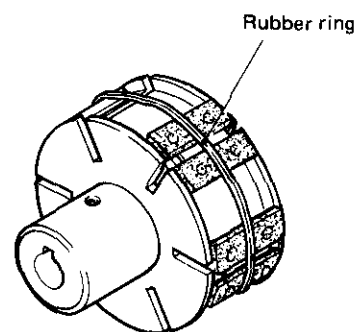

Fig. 6-51
- (1) After assembling vertical shaft parts, assemble horizontal shaft parts.
- (2) Install bearing retainer on bearing housing (3) side of horizontal shaft before installing the bearing.
- (3) Contact surface of gear boss and spiral gear shall be completely adhered.
- (4) In installing horizontal shaft, attention must be paid not to damage lip surface of oil seal.
- (5) Install bearing retainer in tightening it evenly.
- (6) If oil is adhering to friction pulley inside and friction block lining, wipe oil off completely (in which case avoid washing with highly volatile oil such as gas oil, etc.).
- (7) When installing friction block to friction boss and then to frame along with electric motor, it is recommended to hold with rubber ring, etc. to prevent falling of friction block (Refer to Fig. 6-51).
- (8) After assembling horizontal shaft, confirm that it can be rotated by hand.